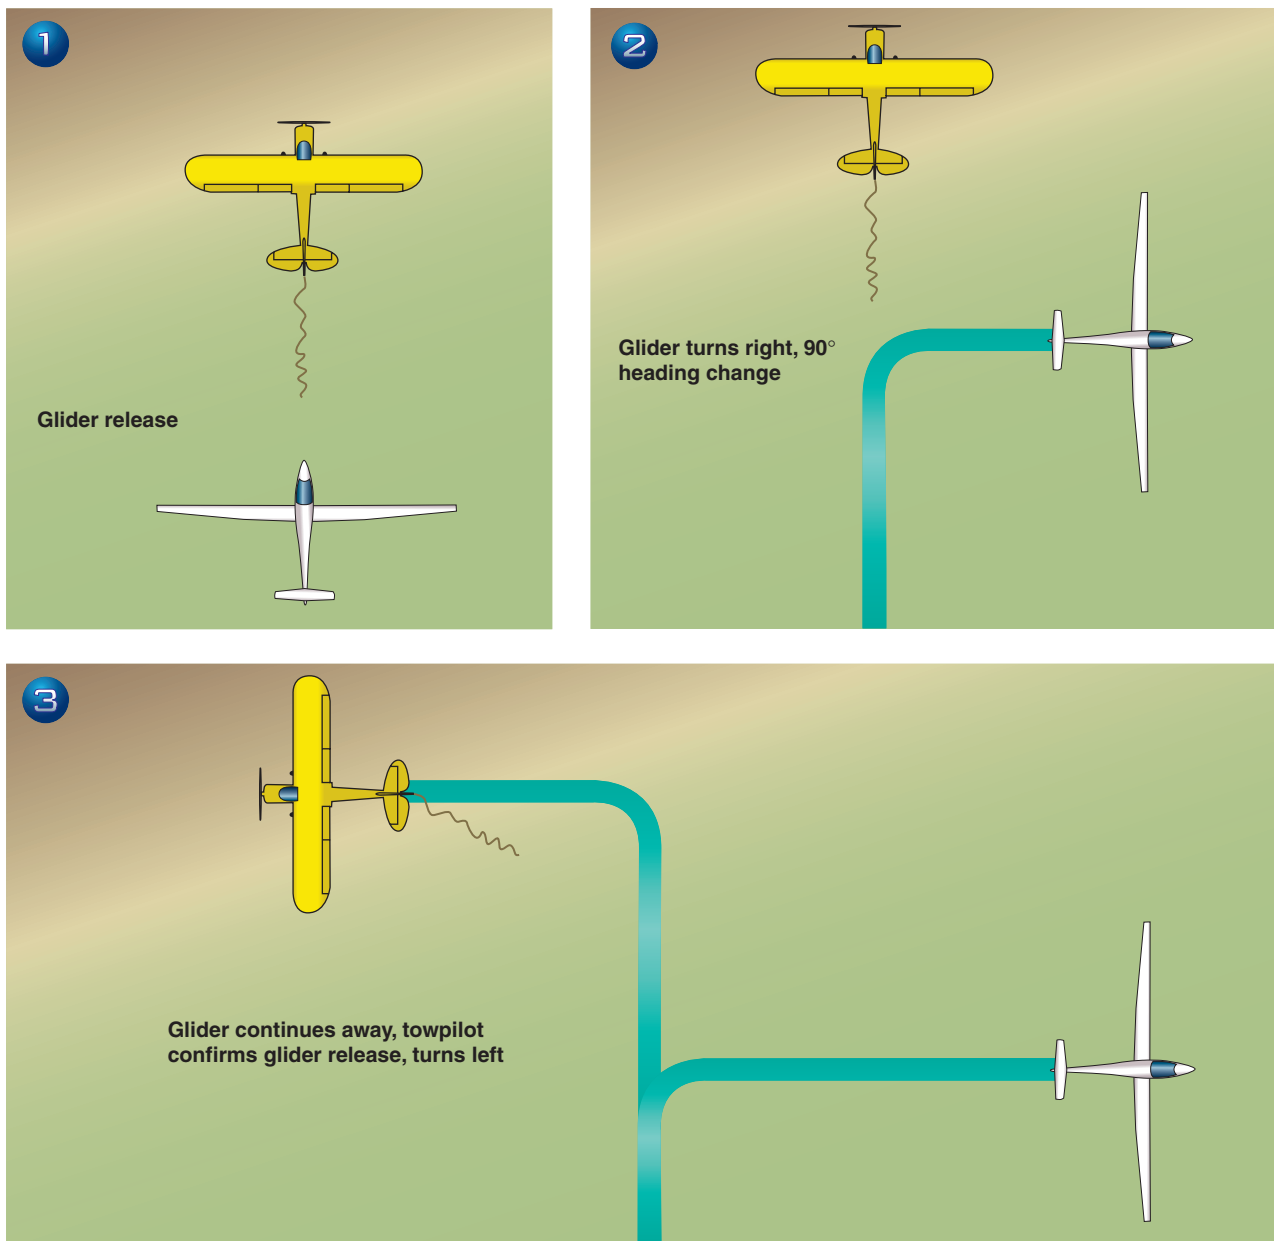

Figure 7-10. Aerotow release.
Standard aerotow release procedures provide safety benefits for both the glider pilot and the towpilot. When the aerotow has reached a predetermined altitude, the glider pilot should clear the area for other aircraft in all directions, especially to the right. When ready to release, the glider pilot should pull the release handle, and visually confirm that towrope has released from the glider as shown in Figure 7-10, item 1. Next, bank to the right, accomplishing 90° of heading change, then level the wings and fly straight, away from the release point. [Item 2] This 90° change of heading achieves maximum separation between towplane and glider in minimum time. After confirming that the glider has released and has turned away from the towplane, the towpilot should turn left away from the release point. [Item 3] Once clear of the glider and other aircraft, the towpilot then begins a descent.